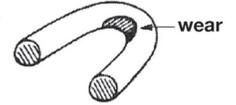

Figure 3
3. Slacken chain and inspect contact points for excessive wear. Refer to Figure 3.